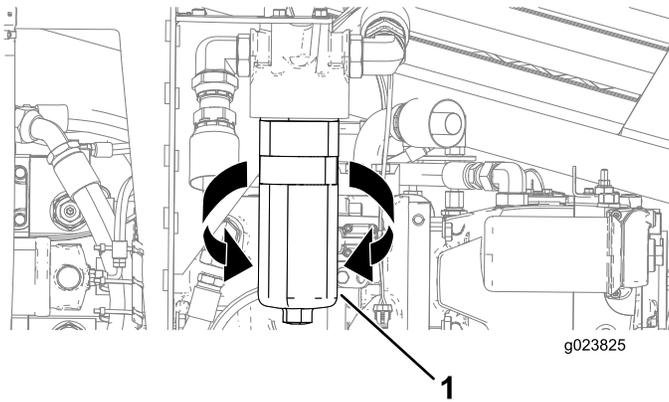

Figure 119
3. Align a drain pan or several rags under the charge filter (Figure 119).
4. Rotate the high-pressure hydraulic filter counterclockwise and remove the filter (Figure 119).
6. Align the high-pressure hydraulic filter to where it seats, and rotate it clockwise until the torque reaches 61 N-m (45 ft-lb) as shown in Figure 119.